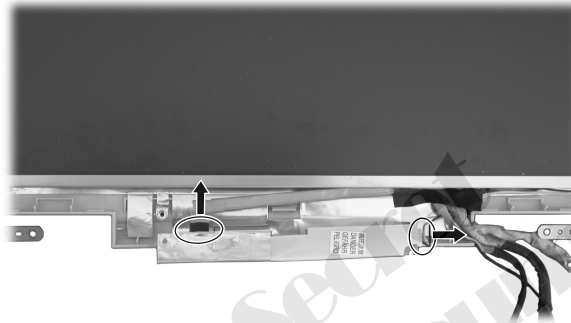

Figure 2-19 Remove the inverter board
5. To remove the inverter board on the lower part of the LCD housing , disconnect two cables. (Figure 2-19)